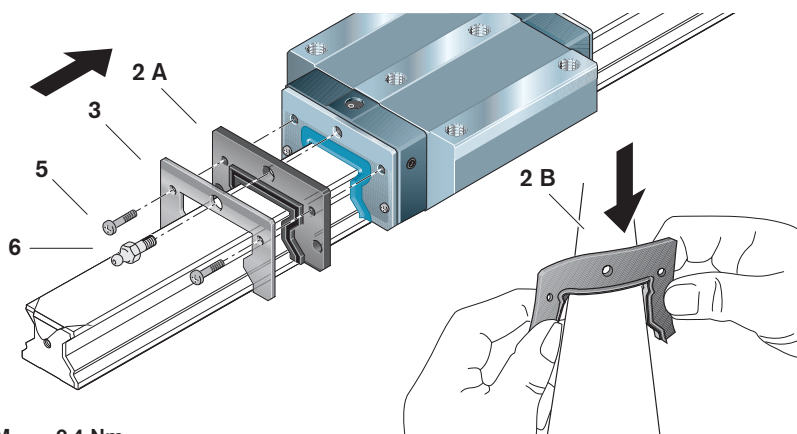

Fig. 52: Mounting the FKM / NBR seal “from above”
1. Push the seal (2 A) ➡ ☒ Fig. 52) on to the guide rail up to the runner block or twist the seal and carefully push it down around the guide rail (2 B).
2. Push the reinforcing plate (3) onto the guide rail from above and slide it up against the seal.
3. Secure at the top using the screws (5) provided.